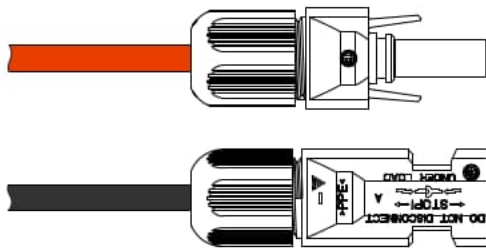

Figure3-18 Tighten the sealing nuts
- Step 4 Tighten the sealing nuts of positive connector and negative connector to the corresponding insulation crusts respectively, as shown in Figure3-18.